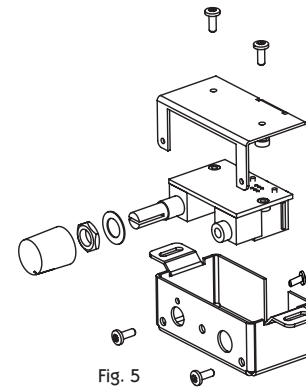

Fig. 5
- a. Remove the volume knob by pulling it straight off of the splined shaft, and remove the nut and washer. (Fig. 5)
- b. Remove two screws on the front of the box and one screw on the back of the box. (Fig. 5)
- c. Remove the two screws on the top of the box and disassemble. (Fig. 5)